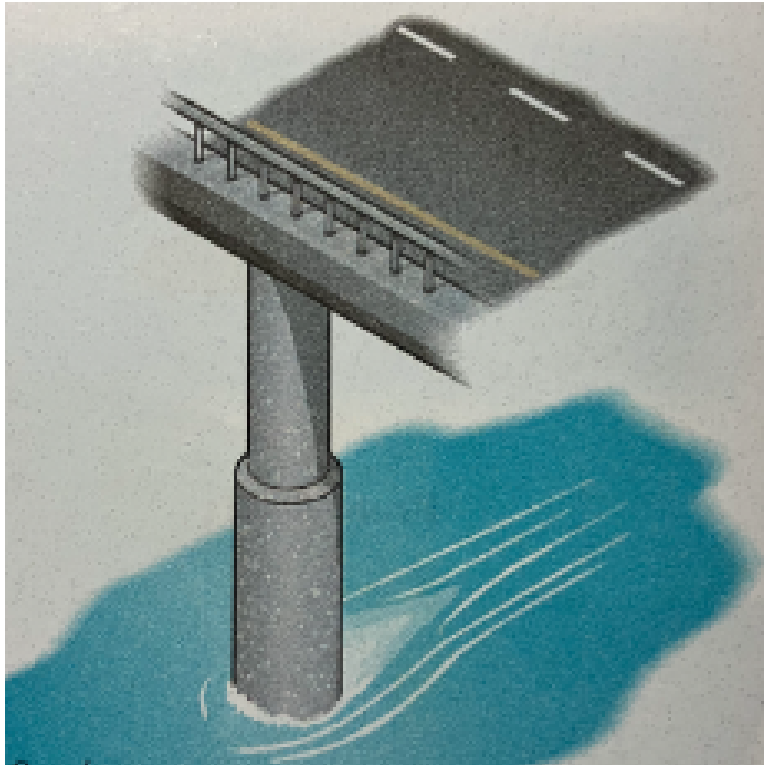

Figure 1:
3. In the design of a lift station, a bypass line is often installed parallel to the pump so some liquid recirculates as shown on Figure 1. The bypass valve then controls the flow rate in the system.